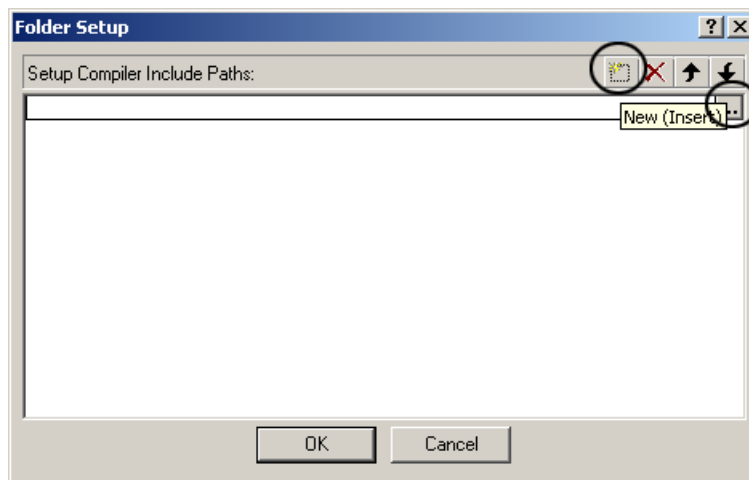

Figure 9. Selecting folders to include
12. By default no paths are included, so you need to include three paths for this project, from the “Folder setup” dialog. See Figure 9.